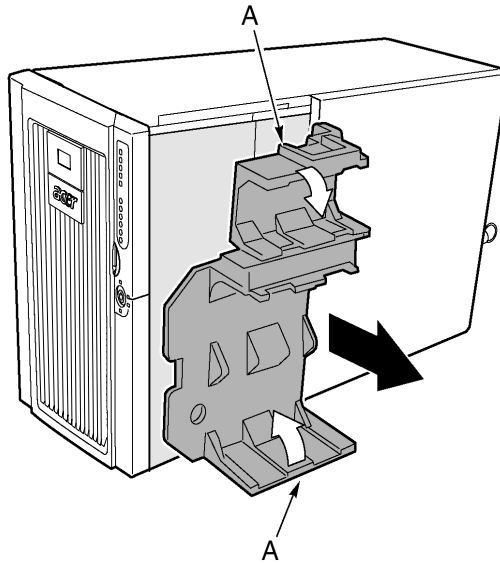

Figure 54 - Removing the fan baffle
- 4 Gently bend the ends of the foam baffle (Figure 54, A) toward each other to release the baffle notches from the tabs of the front subchassis.
- 2 Gently bend back the ends of the foam baffle (Figure 54, A), then push down and slide the baffle straight into the chassis until the tabs on the front subchassis mate with the corresponding notches in the baffle.